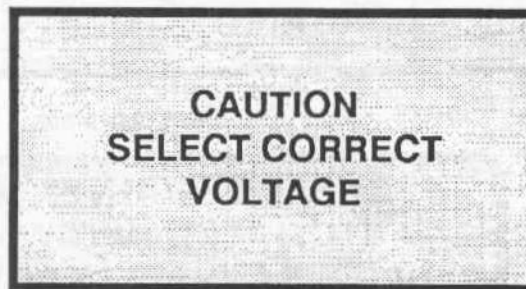

Figure 1-6. Electrical power conversion switch decal.
- (c) A decal, located on the right side of the control box, provides caution information for the electrical power conversion switch as shown in figure 1-6.